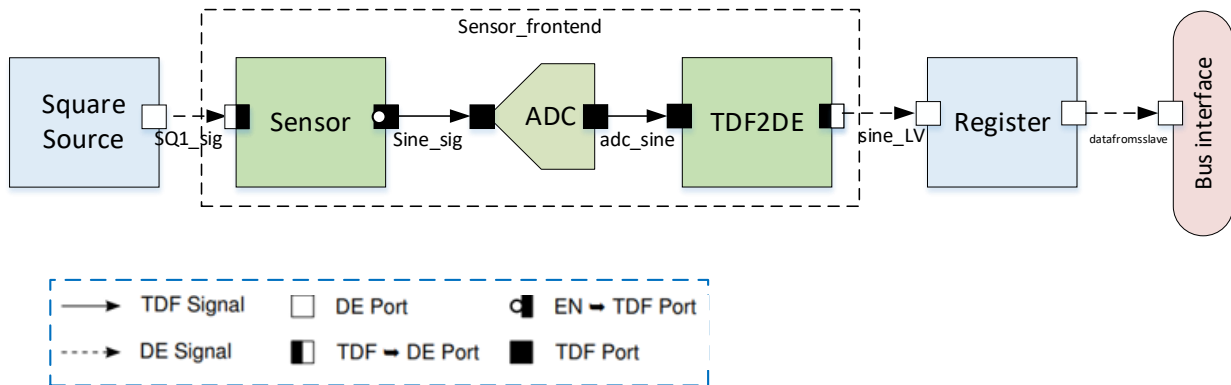

Figure 2: Sensor package
Figure 2 shows the **sensor package**. This package includes an **input source module**, a **sensor frontend**, and a **register to store the digital data**.
- b. Sensor :** This sensor is a lowpass filter that **generates a sine wave from its input square wave**. As shown in Figure 2, this filter **receives a DE input**, and the **output is a TDF signal**. Use the necessary input and output data types. For the **output you need an eln:tdf voltage sink**. Select a value for resistor and capacitor and **report these values**.